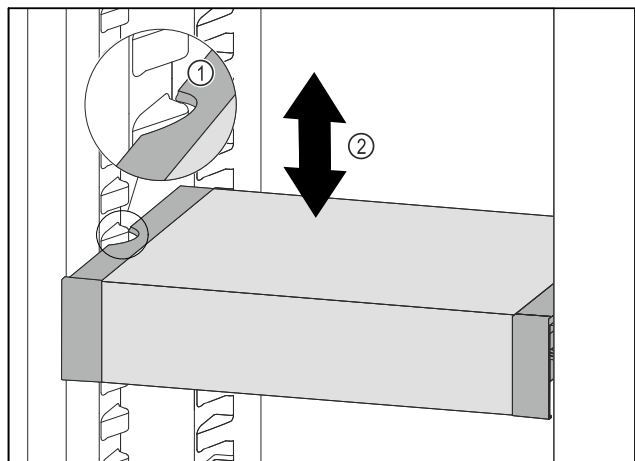

Fig. 155
- ▶ Pull VarioSafe forwards until the recesses in the side of the VarioSafe are at the level of the support rib in the refrigerator compartment. Fig. 155 (1)
- ▶ Move VarioSafe up or down in the refrigerator compartment until the desired height is reached. Fig. 155 (2)